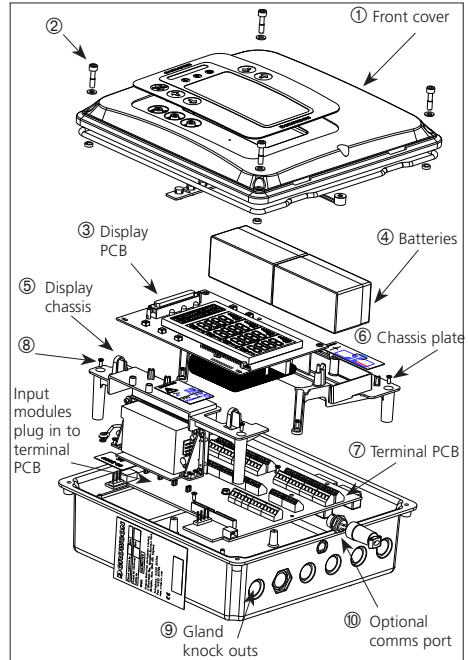
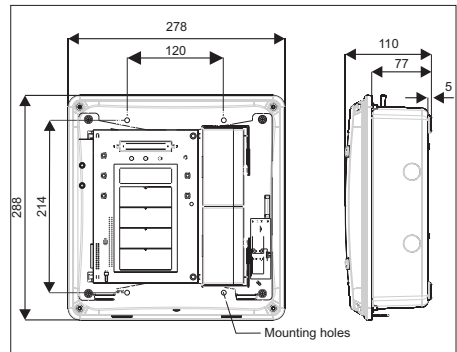

Figure 2.1 Exploded view of Gasmaster
Figure 2.3 Dimensional view of Gasmaster with mounting holes shown
This section describes how to get started with a *Gasmaster 4* or *Gasmaster 1* system that has been pre-configured for the detectors supplied. Figures 2.1, 2.2 and 2.5 show the internal structure of Gasmaster.
Figure 2.1 shows the internal arrangement of a Gasmaster system. The front cover ① is removed by unscrewing the four screws ② and carefully disconnecting the two-pole sounder connector from the display PCB ③. The front cover can either be supported by the case using one of the retaining screws, or removed completely and placed in a safe location. Two separate chassis support the display PCB and batteries which supports the display PCB ③ and batteries ④. The terminal PCB ⑦ contains the input modules, and all of the input and output terminals. The display PCB ③ is connected to the terminal PCB ⑦ via a 50-way ribbon connector, and is hinged on the left side so that it can be moved to provide access to the detector input terminals. Most terminals are accessible once the display PCB is moved and the batteries are removed. If necessary the two chassis can be removed for easier terminal access. In order to remove the display chassis, the display PCB ribbon connector must first be carefully unplugged. Care should be taken when re-fitting
Figure 2.3 provides a dimensional view of Gasmaster. To access the mounting points, first remove the front cover by unscrewing the fixings labelled ② in figure 2.1. Carefully remove the